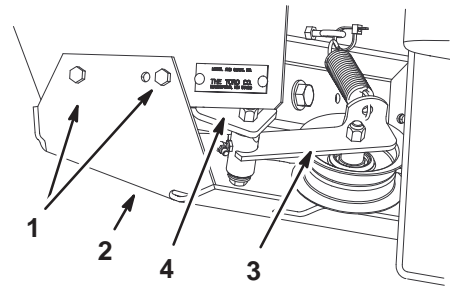

Figure 14
1. Remove the four bolts in the skid plate (Fig. 14).
2. Remove the skid plate (Fig. 14). This will make it easier to remove and install the hardware and belts.
3. Remove the existing bagger tensioner assembly from the tensioner bracket (Fig. 14). Save the hardware.
1. Install the tensioner bracket to the bagger frame with the previously removed nuts (Fig. 14).
2. Install the previously removed eyebolt with the previously removed nuts (Fig. 14).
8. Install the skid plate (Fig. 14).